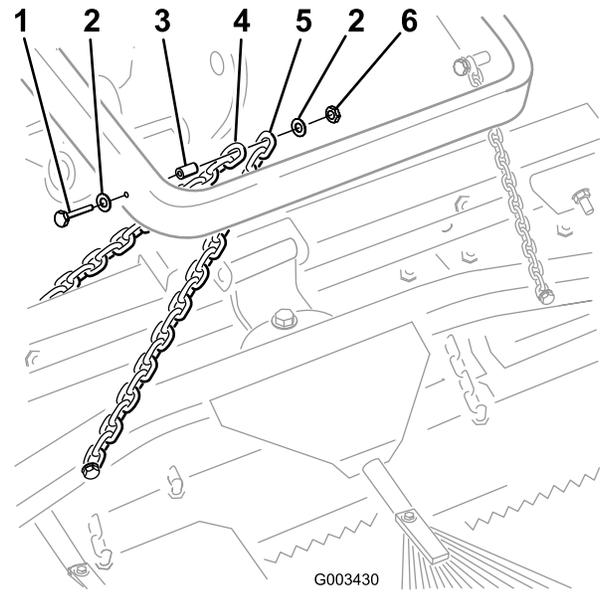

Figure 7
- B. Secure each chain to the side of the lift arm with a bolt (3/8 x 2-1/2 inch), 2 washers (3/8 x 7/8 inch), a spacer, and a flange nut (3/8 inch) as shown in Figure 7.